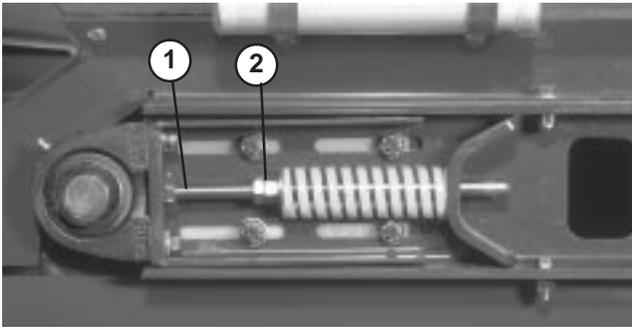

Figure 28
- Loosen jam nuts and nuts on tension rod to release spring tension (Fig. 28).